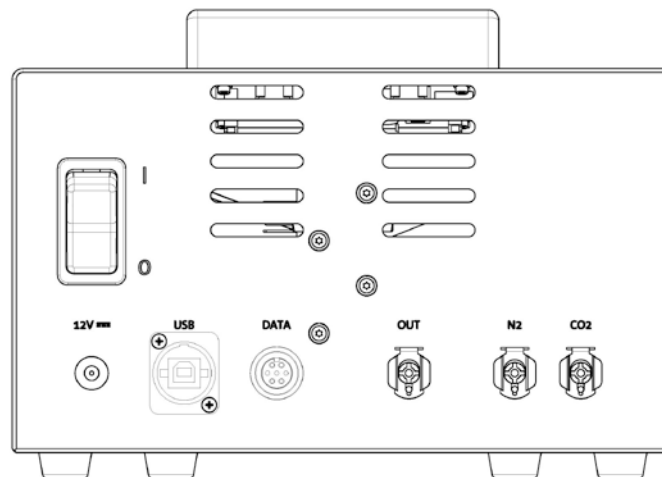

Figure 31
7. Connect the power cord of the adapter to the 12V power socket on the rear of the gas control module (see Figure 31, below).